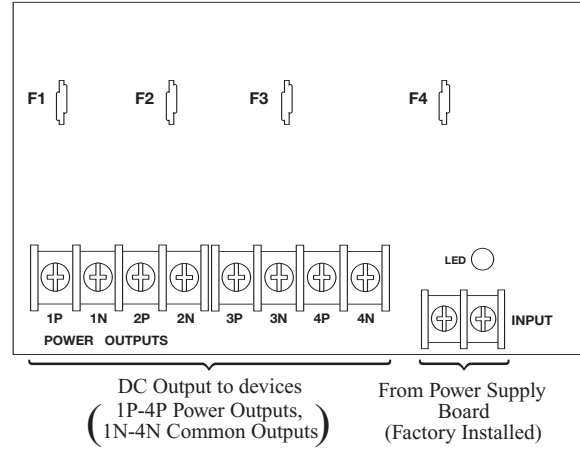

Fig. 3A
- b. For other Power Distribution Models connect devices to be powered to terminal pairs 1 to 4 marked [1P & 1N thru 4P & 4N] (*Fig. 2A & 2B, pg. 6*) or 1 to 8 marked [1P & 1N thru 8P & 8N] (*Fig. 3A & 3B, pg. 6*) carefully observing correct polarity.